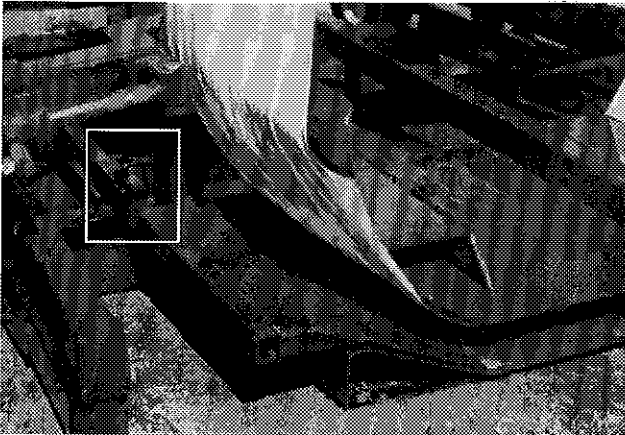

Figure 24
**P-6300:** Open each pair of stretcher arms until the pilot hole in the square tubing reaches the lower end of the guide tube. (Fig. 24)